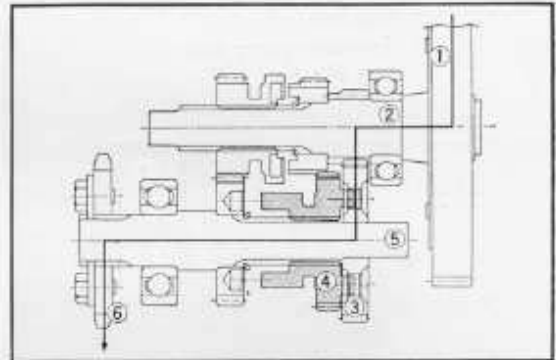

Fig. 3.93 Low gear
2. Operation (C 90)**Low: (Fig. 3.93)**